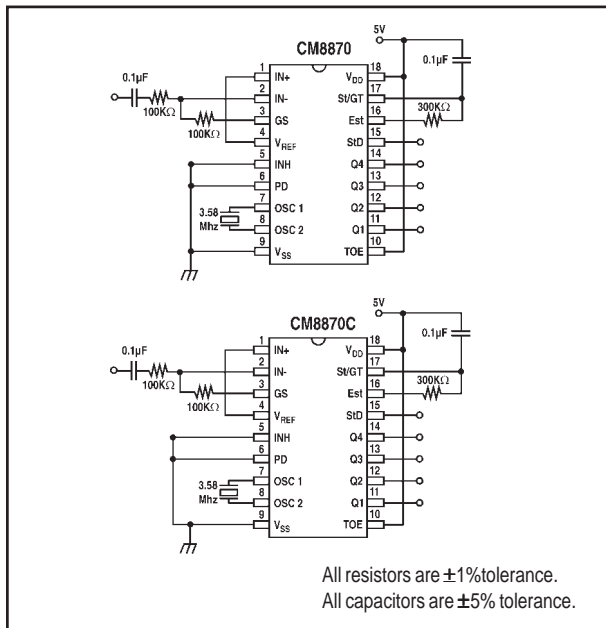

Figure 1. Single Ended Input Configuration
14. Referenced to Figure 1. Input DTMF tone level at -28 dBm.
The value of t_{DP} is a parameter of the device and t_{REC} is the minimum signal duration to be recognized by the receiver. A value for C of 0.1 uF is recommended for most applications, leaving R to be selected by the designer. For example, a suitable value of R for a t_{REC} of 40 milliseconds would be 300K. A typical circuit using this steering configuration is shown in Figure 1. The timing requirements for most telecommunication applications are satisfied with this circuit. Different steering arrangements may be used to select independently the guardtimes for tone-present (t_{GTP}) and tone absent (t_{GTA}). This may be necessary to meet system specifications which place both accept and reject limits on both tone duration and interdigit pause.
In a single-ended configuration, the input pins are connected as shown in Figure 1, with the op-amp connected for unity gain and V_{REF} biasing the input at $\frac{1}{2} V_{DD}$. Figure 6 shows the differential configuration, which permits the adjustment of gain with the feedback resistor R5.